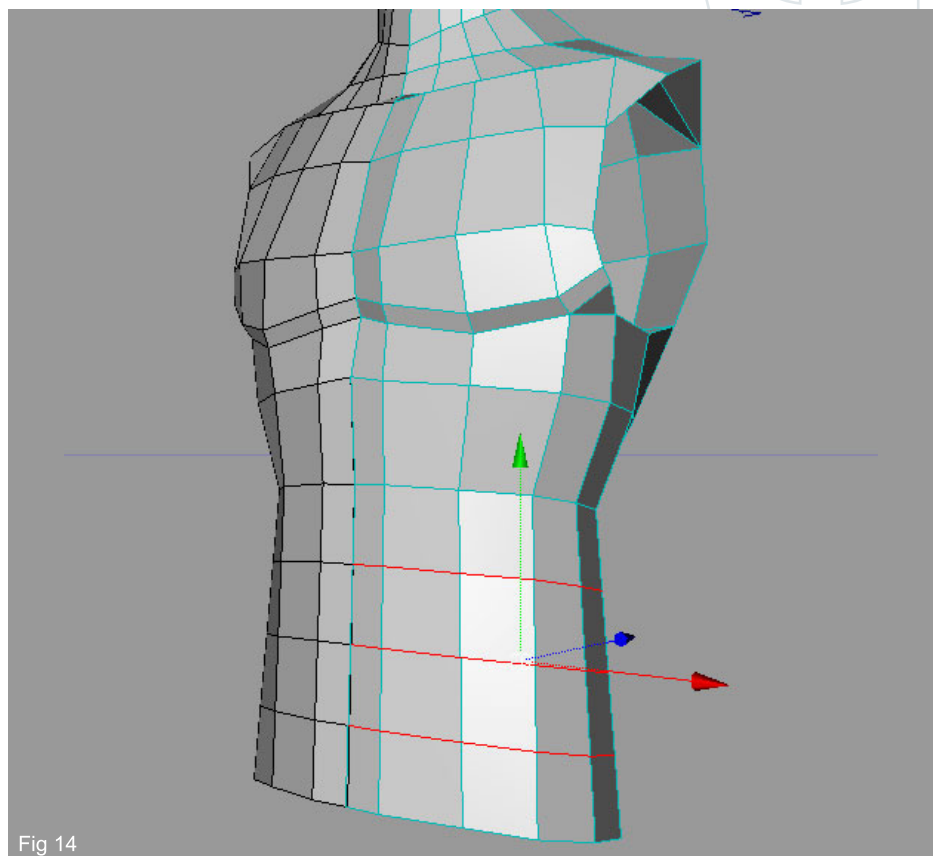

Fig 14
14. Add three cuts to the new section of poly's we have just made. Use the Ring Selection tool to select the edges then use Edge Cut tool to add three segments like shown (Fig14).